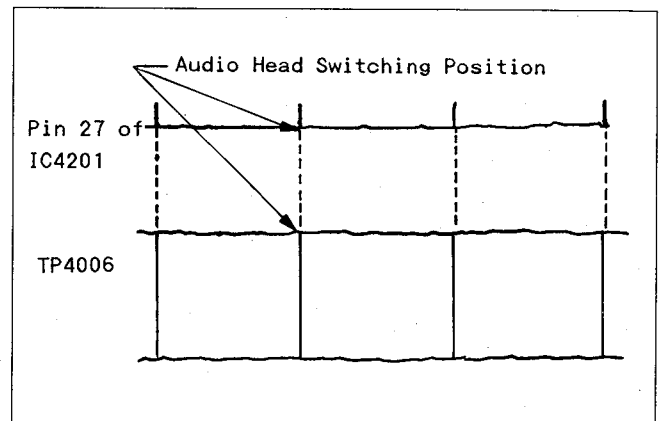

Fig. E8
1. Play back the portion just recorded and confirm that the envelope at TP4006 is as shown in Fig. E8.